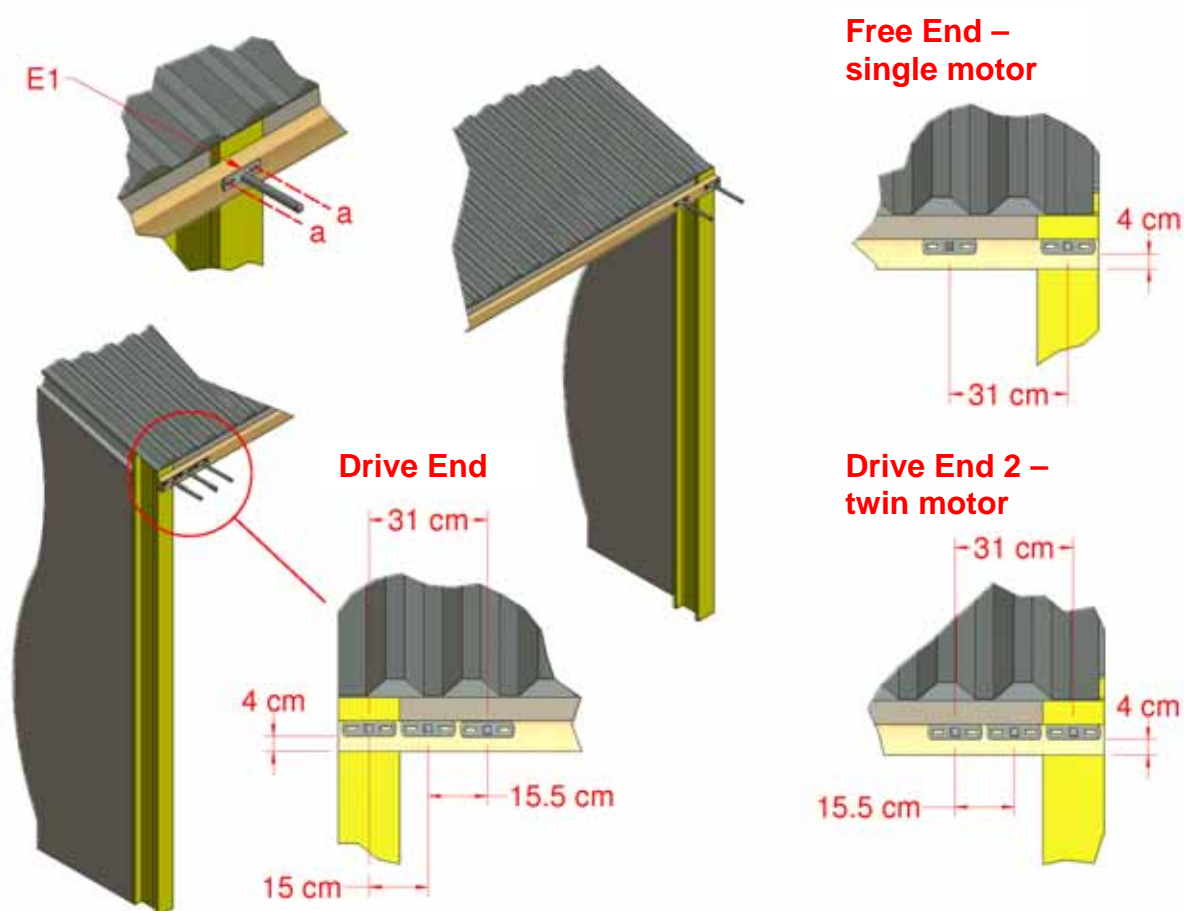

Figure 3, Drive and Free End Face Bracket Installation
2.1 Fit the upper Face Brackets (E1) at each end of the building with appropriate fasteners to the top beam, as shown in Figure 3. The three Face Brackets at the drive end/ends should be positioned at 15.5cm centres. The two Face Brackets at the free end (for single motor drive) should be positioned at 31cm centres. A 4cm gap should be allowed beneath the Face Bracket to fix the curtain Kador Profile, Section 3.1.